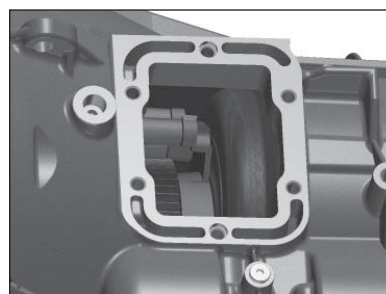

Figure 73
2. Discard the cover plate and set gasket aside. Ensure aperture surface is clean (**Fig. 73**).